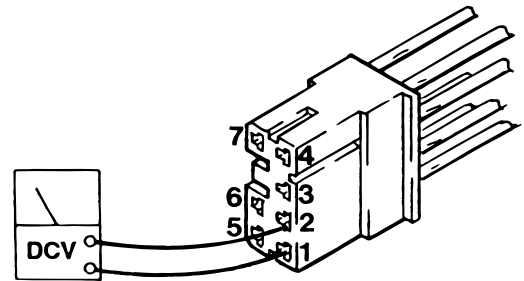

Figure 6-18. Relay Box Input
2. Using a DC voltmeter, test input power for both the BATTERY and AC120V operating modes. See figure 6-18. Meter should read approximately 24-28 volts.
2. Test CN12 at pin 1(+) and pin 2(-) with a DC voltmeter. Meter should read approximately 24-28 volts when any function button is activated. If no voltage is present, use an ohmmeter to test the continuity from CN12 to CN4 (yellow and blue wires). Refer to figure 6-18 for pin locations.